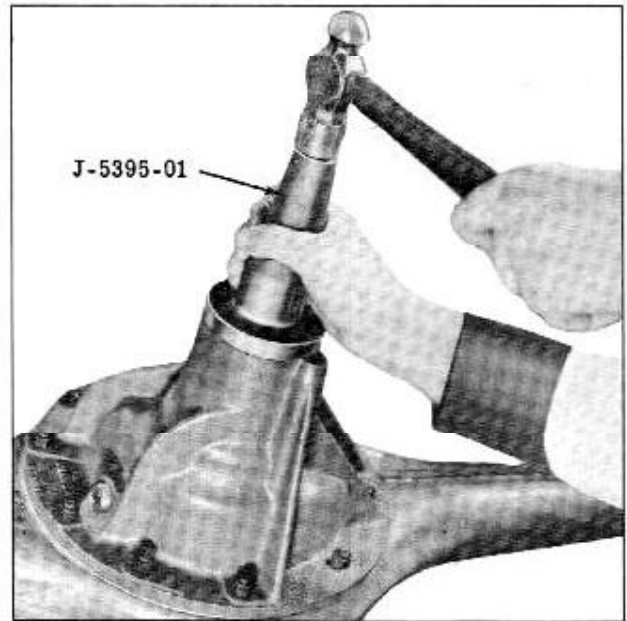

Fig. 6-10 Installing Pinion Oil Seal
8. Coat outside diameter of new seal sparingly with Permatex No. 2 and install seal using driver J-5395-01 to properly locate seal in carrier. (Fig. 6-10)